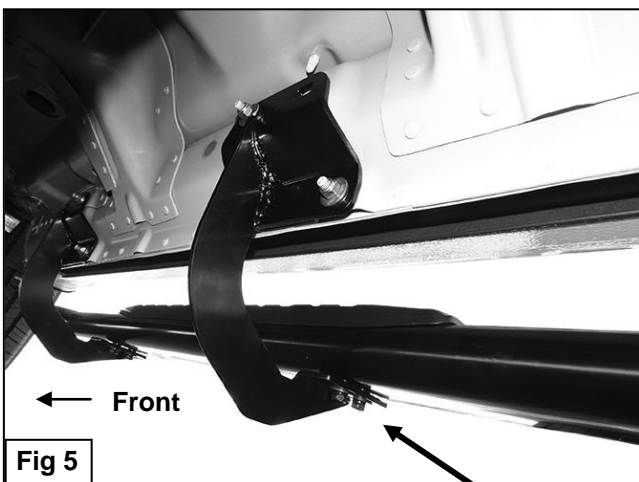

Fig 5
4. Repeat **Steps 1—3** to install the (2) remaining center and rear passenger side Brackets.
5. Select the passenger/right Sidebar. Carefully position the Sidebar onto the (3) Mounting Brackets.
IMPORTANT: Do not slide, (front to back or rotate), the Sidebar on the Brackets or damage to the finish on the Sidebar may result. Attach the Sidebar to the Mounting Brackets with (6) 8mm x 25mm Combination Hex Bolts, **(Figure 5)**. Do not tighten hardware.